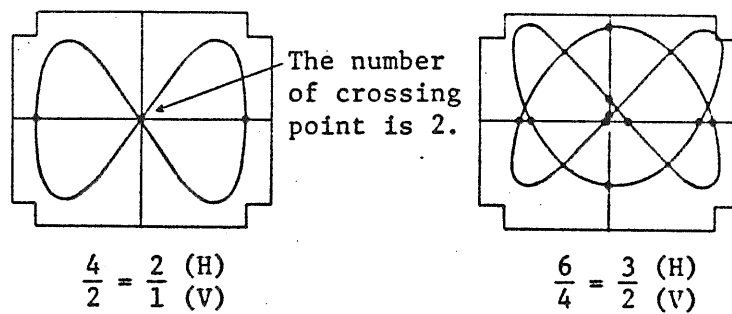

Figure 15
- o Frequency measurement with Lissajous figure (See Figures 15 and 16):
Apply to the X-axis a known frequency from a signal generator (SG) and to the Y-axis the frequency to be measured. So adjust the required controls that a pattern is displayed on the overall surface of the CRT screen. Then so adjust the frequency of the signal generator that the displayed pattern becomes stationary as shown in Figure 15. From the displayed waveform, the unknown frequency can be calculated as follows: